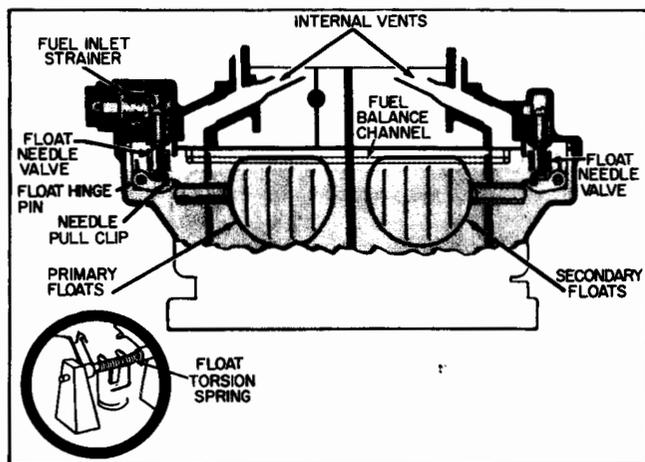
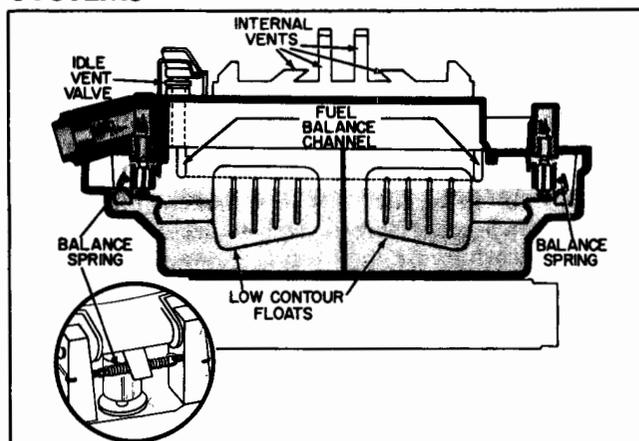
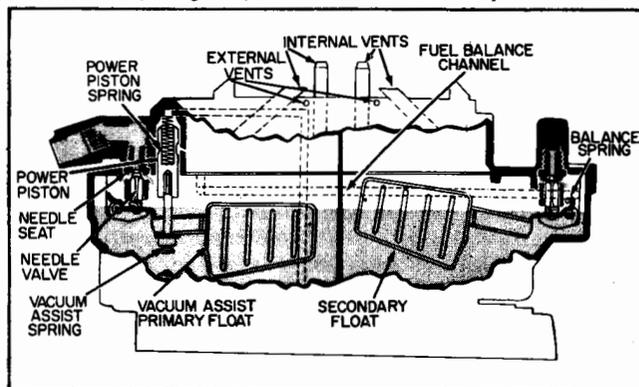

FIGURE 1
FIGURE 2
FIGURE 3
Float Systems (Fig. 1)(Fig.2)(Fig. 3)
- A. Figure 1 (see inset) A torsion spring wrapped around the float hinge pin with one end fastened to the float arm and the other end resting on the needle seat. This design is normally used with the high float bowl and the "D" shaped float.
- B. Figure 2. A float balance spring is installed be-
- C. Figure 3. A coiled spring located on the power piston stem exerts pressure on a tang on the float arm, whenever the power piston is in the up position. During heavy acceleration or power system operation, the power piston drops and releases all pressure applied to the tang. This allows maximum float drop under heavy fuel demands and assists in closing the needle under normal operation. With this system, a vacuum assist spring adjustment is necessary.
Both sides of the carburetor are individually and internally vented by the tubes as shown in Figure 3. These vents transmit the air pressure from beneath the air cleaner to the fuel in the float bowl. The amount of fuel metered by the carburetor depends upon the pressure in the bowl.
Some applications use an atmospheric idle vent valve. This vent valve is located on the air horn just above the float bowl (See Fig. 2). It is operated by the tang on the pump lever. When the throttle lever is in the idle position, the idle vent valve is open to allow any fuel vapor pressure built up in the float bowl during periods of hot engine idle and hot soak, to escape to the outside. The vent valve closes when the throttle valves are opened, returning the carburetor to internal balance by venting the fuel bowl through the internal vents inside the air horn.